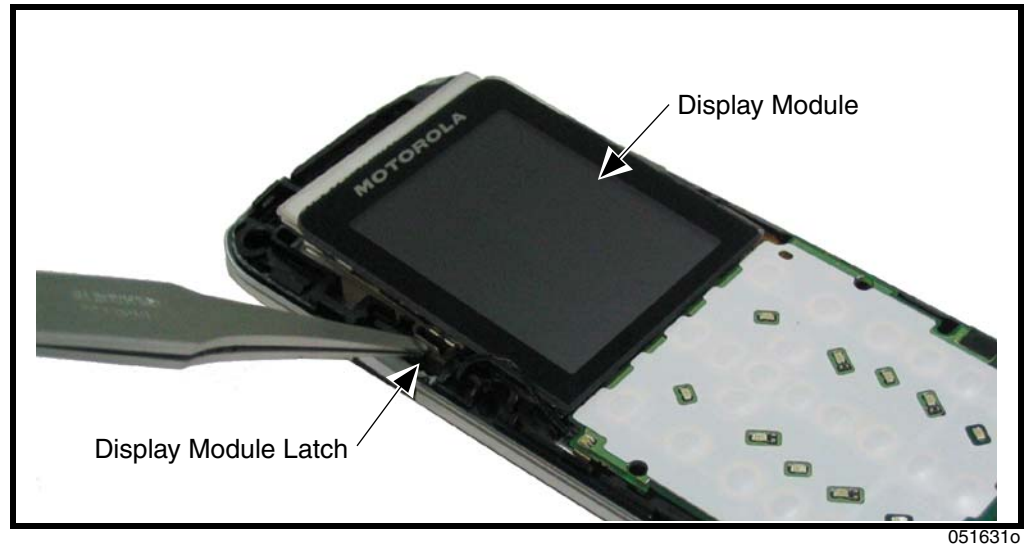

Figure 22. Removing and Replacing the Display Module Latch
2. Use the metal tweezers to release the display module assembly latch located at the side of the display module (see Figure 22).